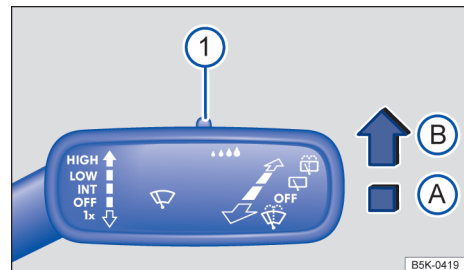

Fig. 71 On the right of the steering column: wiper lever.
→ Fig. 71:
The sensitivity of the rain and light sensor can be adjusted manually using the switch → Fig. 71 ① in the wiper lever → ▲.